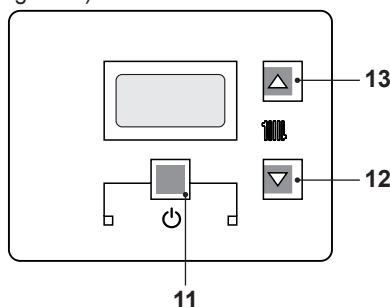
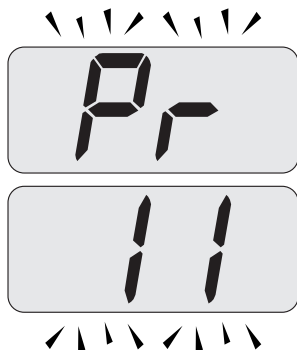
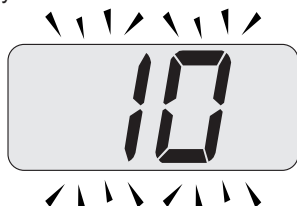

Fig. 7.27
Fig. 7.29
Fig. 7.30
- Enter in "programming mode" by pressing keys 11 - 12 - 13 (Fig. 7.27) for 10 seconds at the same time until the letters **Pr** that alternate with code **01** are displayed on the LCD display, indicating that "parameter 01" (Fig. 7.28) has been activated.
- Scroll the various parameters using keys 12 or 13 until the letters **Pr** that alternate with code **11** are displayed on the LCD display, indicating that "parameter 11" (Fig. 7.29) has been activated.
- Press keys 11 and 13 (Fig. 7.27) at the same time until the value of parameter 11 (10=60 seconds) (Fig. 7.30) is displayed on the LCD display .
- By pressing key 11 (Fig. 7.27) confirmation of the inserted value is obtained.
- Press keys 11 and 12 (Fig. 7.27) at the same time to exit without changing the value (return to the parameters list Fig. 7.29)
- Press keys 11 - 12 - 13 (Fig. 7.27) at the same time for 10 seconds to exit the "programming mode".